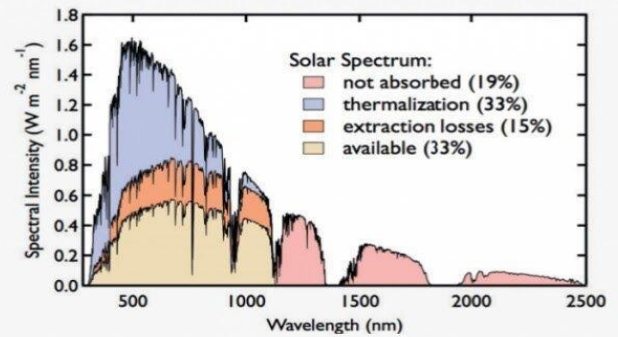

FIGURE 5: A GRAPH THAT SHOWS THE SPECTRAL INTENSITY AGAINST WAVELENGTH
You might have noticed that the efficiencies of solar panels are very low. Even the best type of solar panels (that are monocrystalline solar panels) have a maximum efficiency of only 33%. What is the reason for it? William Shockley and Hans-Joachim Queisser made a discovery that solar panels with only one layer suffer efficiency limitations as they are unable to absorb solar light to its fullest. This discovery is now called the Shockley- Queisser limit. He noticed that photons from different parts of the spectrum have different natures (as shown in figure 5). (4)